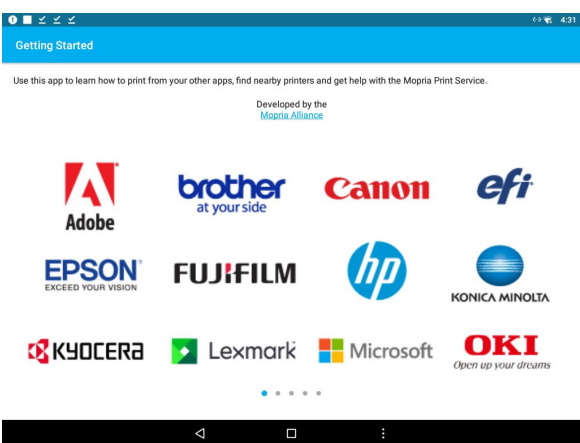
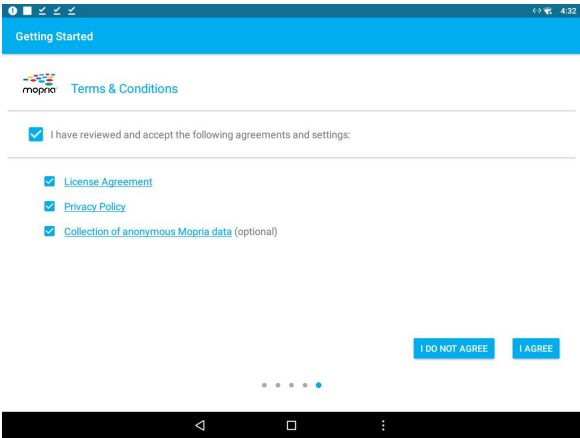

Figure 6
Figure 7
3. Open the installed printing software, as shown in Figure 6. Go to the last page and check “Agree” license agreement and privacy policy. Click “I agree” to start using the software, as shown in Figure 7.